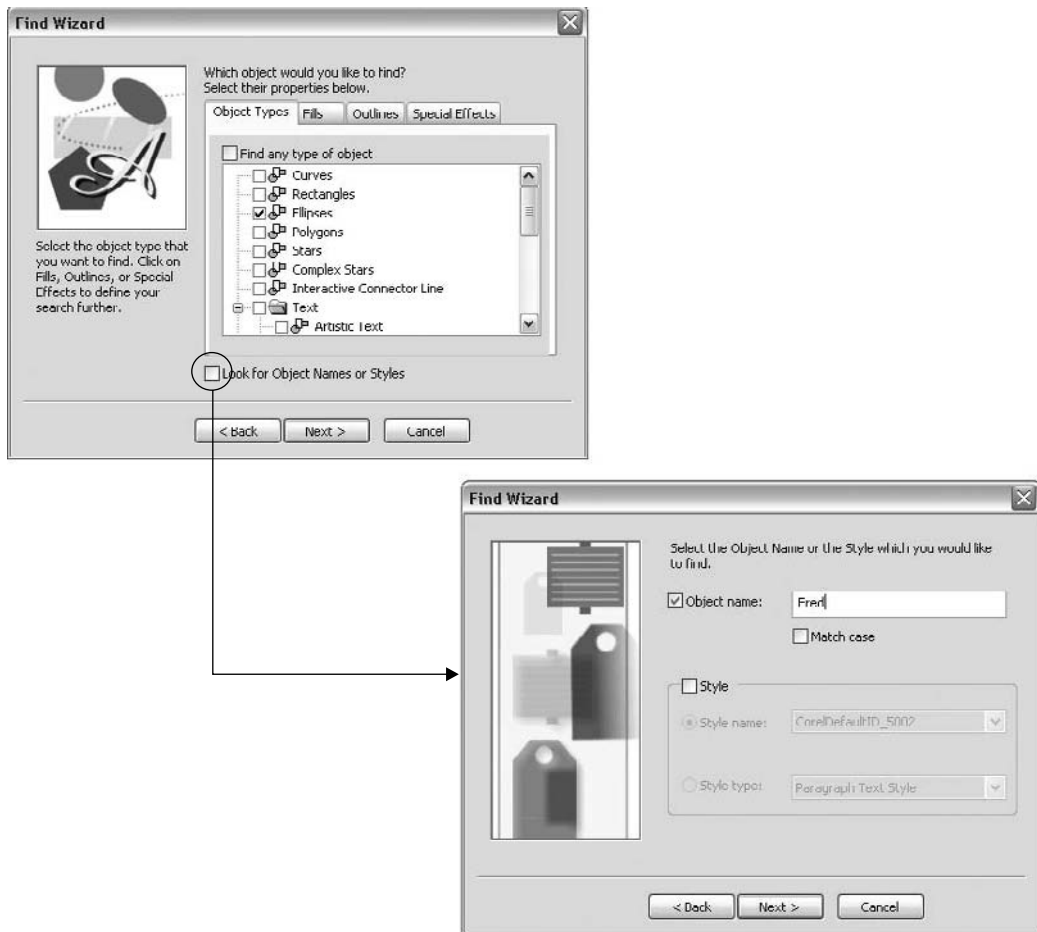

FIGURE 12-6 Select the properties of the objects you would like to find.
2. In the next page, shown in Figure 12-6, choose Object Types, Fills, Outlines, or any applied Special Effects by clicking each of the dialog tabs and selecting the options. In this figure, we're looking for an ellipse that is in Pie shape mode among dozens of shapes on the page. Unchecked variables are omitted from the search. Selecting options within each of the tabbed areas of this dialog causes the Find Wizard to display additional editing dialogs for each object type, fill type, outline, and special effect, and enables you to narrow the parameters further. After confirming or further specifying your choices, proceed to the next dialog by clicking Next. In Figure 12-6 you can see the dialog that results if you check the Look For Object Names Or Styles box. One very easy way to locate an object involves forethought: you know in advance you're going to build a design with a huge number of objects. You name the object you know you'll need later. To do this, you select the object in the Object Manager, click a second time on its listing to open the field for typing, and then type in a unique name. As a result, The Find Wizard can easily and quickly track down a rectangle named "Fred" or any other object on the page.